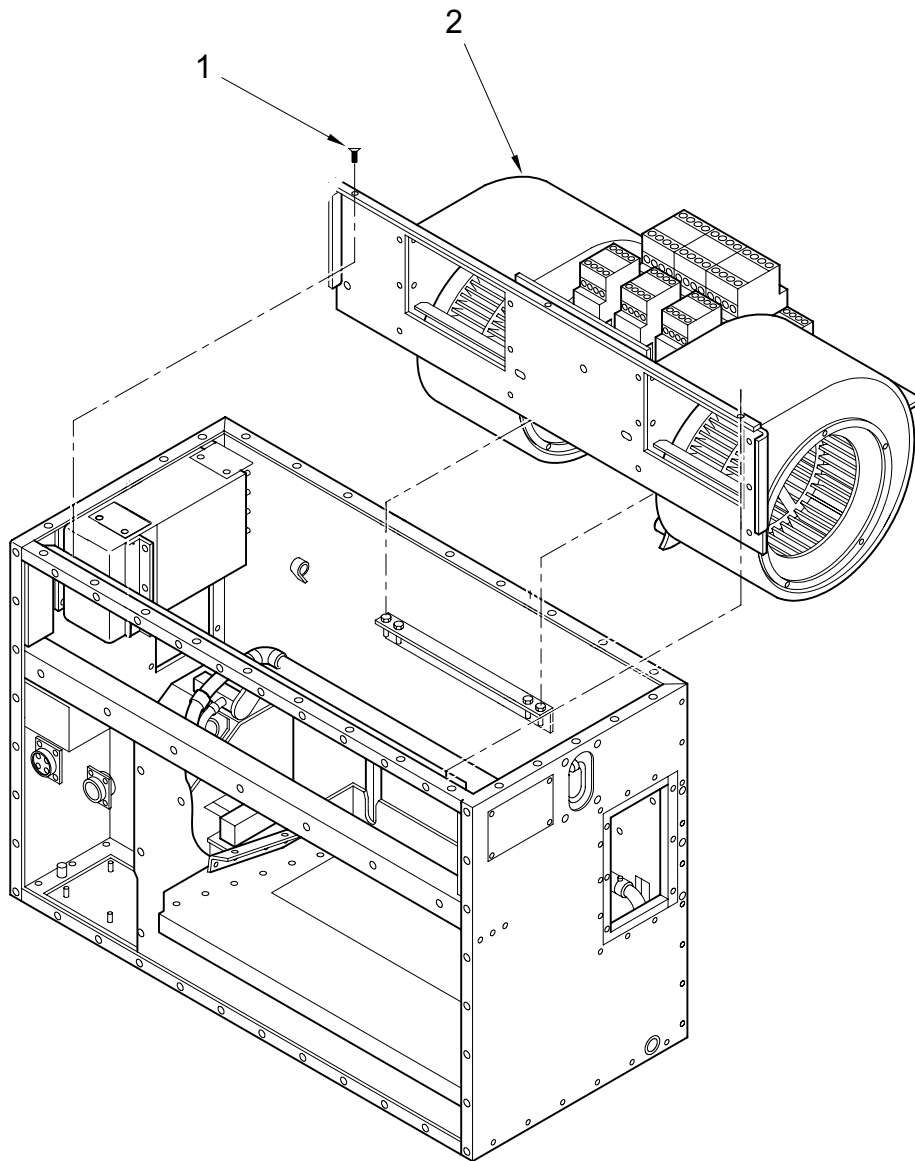

Figure 2. EVAPORATOR BLOWER AND MOTOR ASSEMBLY - LOCATION
5. Remove the relay assembly (1). See Figure 2.
7. Remove the outer fan inlet ring (5).
8. Remove the screws and washers from the overheat switch assembly (7).
9. Move the overheat switch assembly (7) out of the way.
10. Loosen the setscrews in the extension shaft (8).
11. Slip the impeller (4) or (9) and extension shaft (8) out of the blower housing. If both impellers are to be removed, mark or tag them to avoid reversing the impellers.
13. Remove the blower housing (3) from the mounting plate.
15. Slip the impeller (4) or (9) off the extension shaft (8). If the impeller does not come off the shaft easily, do not hit or twist the impeller. Impellers are easily damaged. Secure the free end of the extension shaft in a vise or similar tool. Use a screwdriver through the impeller setscrew access opening, and place tip between impeller hub and extension shaft shoulder and twist screwdriver.